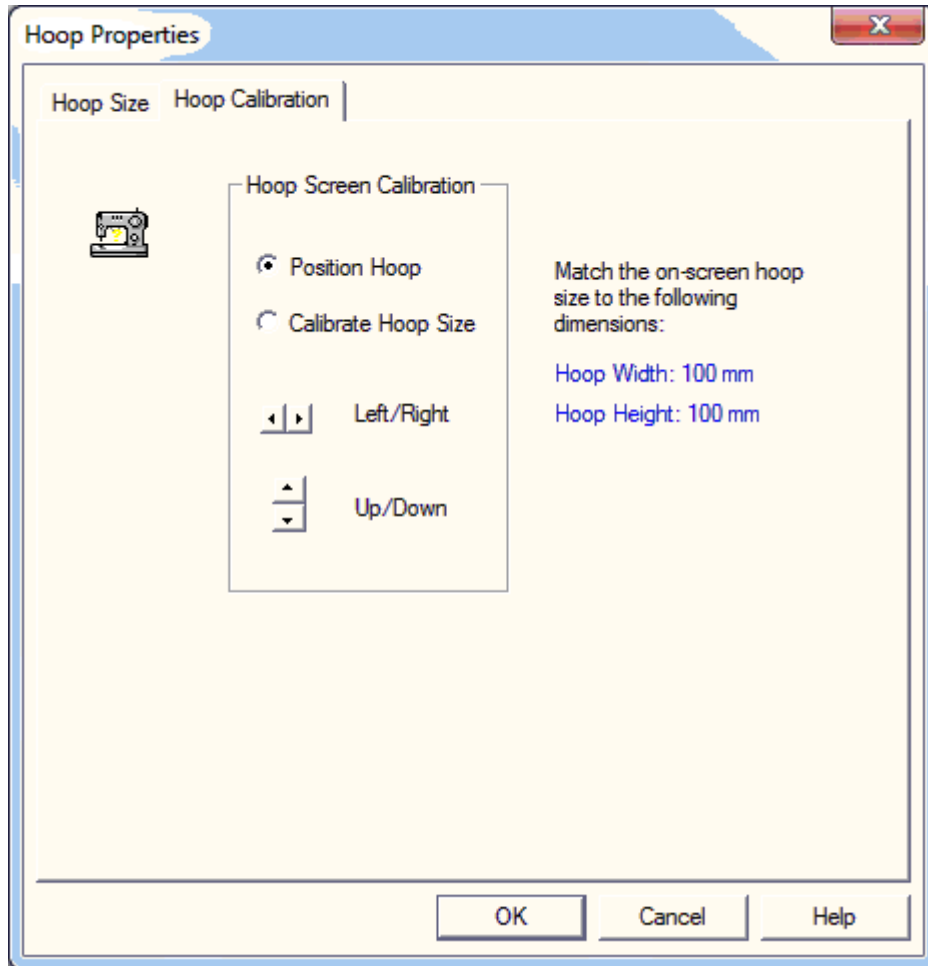

Figure 4 Hoop Calibration dialog to adjust the displayed hoop size and position.
- Use the vertical (horizontal) spin control to change the vertical (horizontal) position and/or size of the hoop on the screen (see Fig. 4). Click the *Position Hoop* button to move the hoop to another position on your screen. Click the *Calibrate Hoop Size* button to adjust the size of the hoop on your screen. You only need to adjust the size of *one* hoop, and that will be sufficient to guarantee that all *other* hoops will be properly sized.